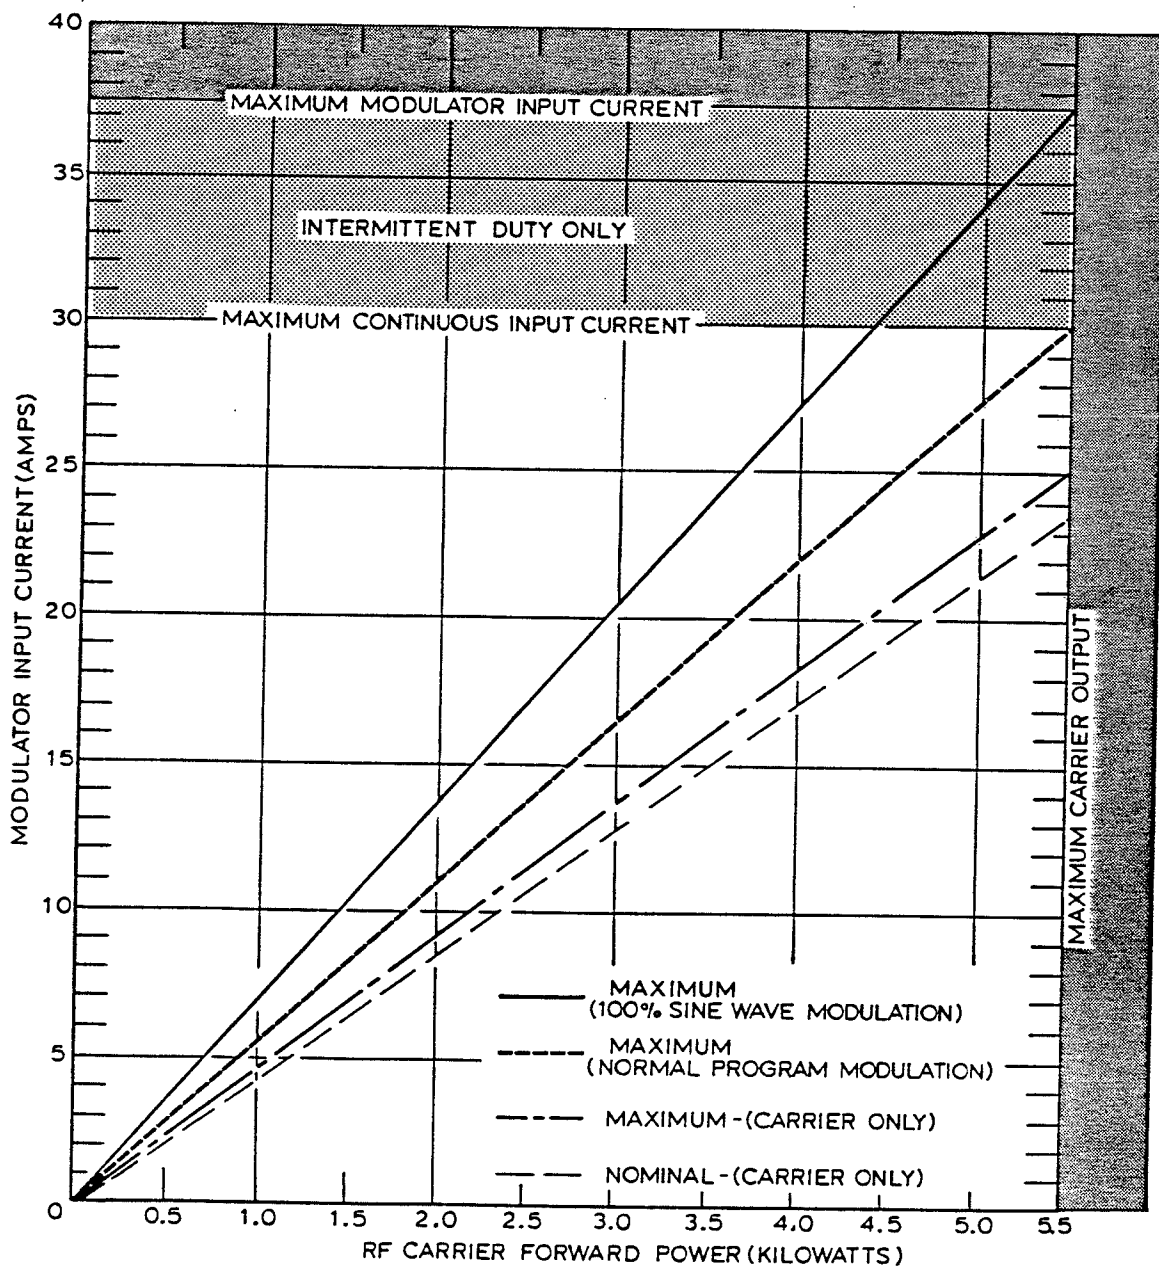

Figure 4-1 Modulator Input Current Versus RF Carrier Forward Power
- (p) Plot the assigned 'high level' rf output reading recorded in step (j) and each of the modulator input current readings recorded in step (m) on the graph shown in figure 4-1. The intersection points must be below the 'Maximum - Carrier Only' line.
4.7.2 The modulator input current of any power block, as indicated on MODULATOR INPUT CURRENT meter 1A1M2, must not exceed prescribed maximums. It is recommended that the modulator input current for all power blocks be routinely monitored whenever the carrier or modulation levels are changed. Figure 4-1 provides a graph that depicts the maximum modulator input current for the full rf carrier forward power output range; when there is no modulation, when the modulation source is normal station programming, and when the modulation source is a continuous sine wave from an audio signal generator. The one exception is when a power block is operating with one or more defective power amplifiers. Verify these maximums are not exceeded whenever a rectifier/regulator is turned on, when the high or low carrier level is varied, when the modulation level is varied and when the rf output loading changes.
4.8 The modulation criteria is detailed in paragraph 5.5.9. The modulation level can be adjusted for 100% modulation when the input modulating audio is between +10 dBm and +12 dBm at 600 ohms. If any adjustment in the audio input level is required, refer to the procedures outlined in paragraph 5.5.9. Under normal modulation conditions, the modulator input currents should not exceed the levels indicated in figure 4-1. Actual level of modulator input currents will vary between the nominal level for carrier only, and the maximum level for normal modulation depending upon the degree of signal processing/compression used in the station's audio system, and the program material.